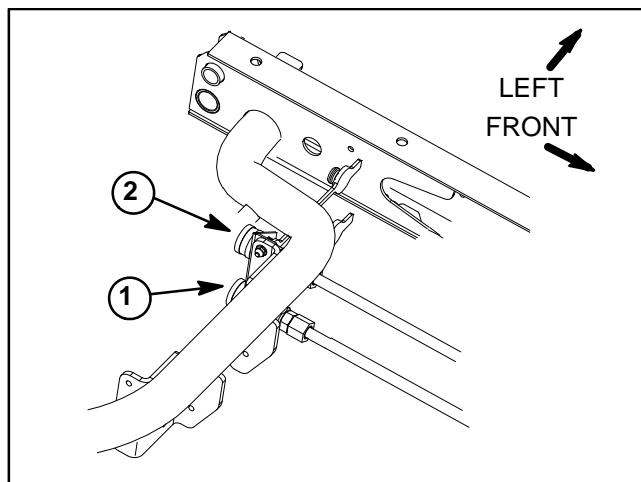

Figure 23
IMPORTANT: Make sure that the oil flow indicator arrow on the flow meter is showing that the oil will flow from the pressure (P) coupler, through the tester and into the return (T) coupler (Fig. 23).